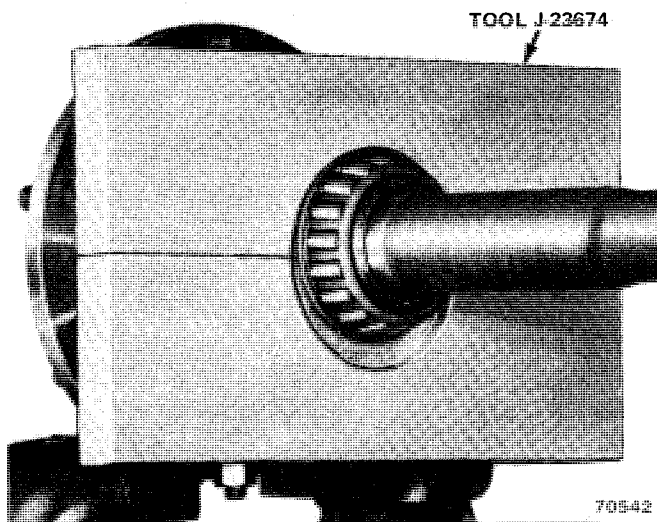

Fig. 2F-26 Axle Shaft Bearing Removal
(1) Remove axle flange nuts, lockwashers, and split washers retaining axle shaft flange (fig. 2F-27).
(2) Remove axle shaft from housing.